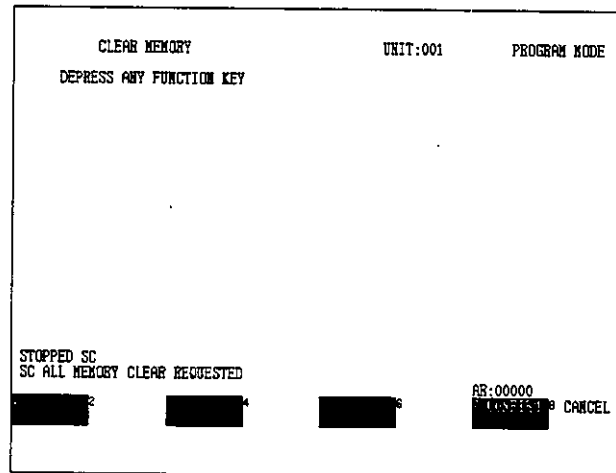

Figure 6.34
6) Select Clear All. The screen shown in *Figure 6.34* will be displayed. (See Note (4))